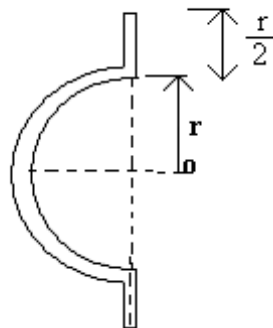

Figure 2:
3. Determine the location for Shear Centre for the thin walled section shown in figure 2. [16]